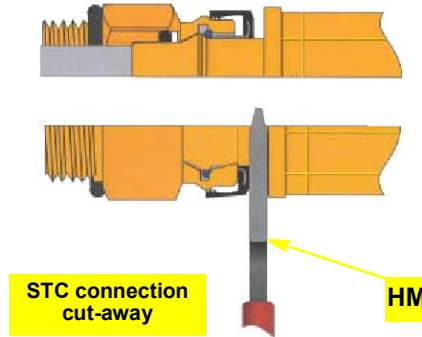

Figure 5b: Using the STC release tool
- b. Insert the right-sized tool **HM** (#6 or #8) behind the rubber release sleeve of the STC connection. The two halves of the connection can then be pulled apart (Figure 5b).